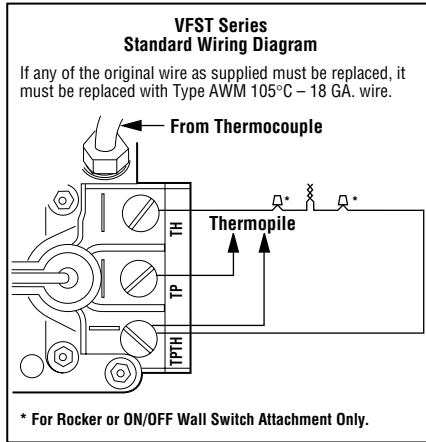
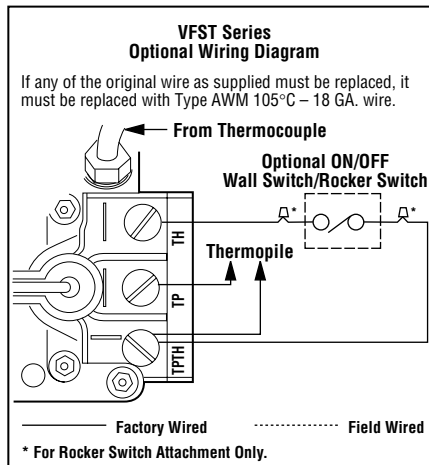

Figure 12
Figure 13
Step 6. Installing the Optional Remote Wall Switch – The standard millivolt system comes from the factory wired as shown in Figure 12. Select a convenient location for the remote wall switch and connect the wiring to the appliance (Figure 13).
An optional wall switch kit can be installed along with all vent-free appliances. The kit consists of a standard UL wall switch with cover plate. This kit provides for remote (wall) operation of the appliance. Replace the wall switch and cover plate of this kit with the components of the RCK and you can have true remote control of your vent-free appliance, turning it on and off from your favorite easy chair. The wall switch kit should be installed along with the appliance. Refer to Figure 13 and Step 6 for detailed installation instructions.